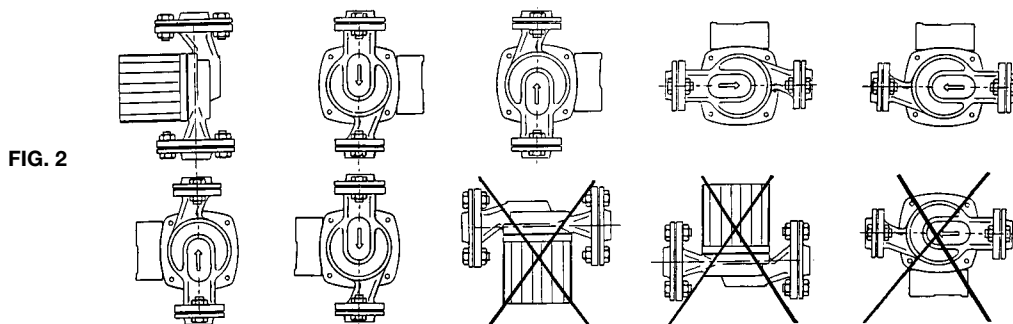

FIG. 2
The Model NRF/NBF/SSF Circulator can be installed to discharge up or down, horizontally, left or right, but the motor shaft must remain in the horizontal position, the arrow on the body must point in the direction of the flow, the conduit box must be positioned on the top or to the side of the motor housing (see figure 2). If the conduit box position must be changed, it is best to do so before installation. However, if the pump is already installed, see the section titled "REMOVAL OF PUMP FROM EXISTING SYSTEM FOR REPLACEMENT" before proceeding.
1. Remove the four (4) 1/4-20 Allen screws (3/16 wrench) while supporting the motor assembly.
2. Remove the motor assembly from the pump body and rotate it to the desired position (see figure 2).